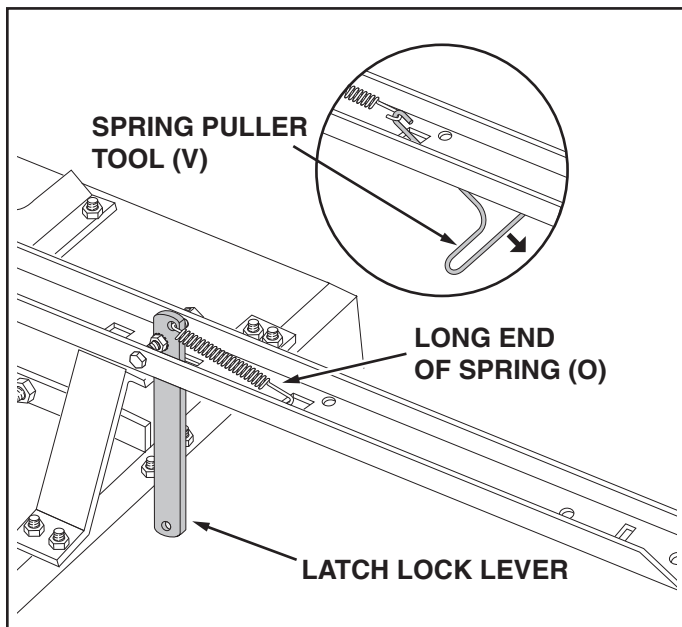

FIGURE 9
18. Hook the **short** end of the spring (O) into the hole in the latch lock lever. Use the spring puller tool (V) to hook the **long** end of the spring into the square hole in the tongue. The spring puller tool (V) can be stored when finished. See figure 9.